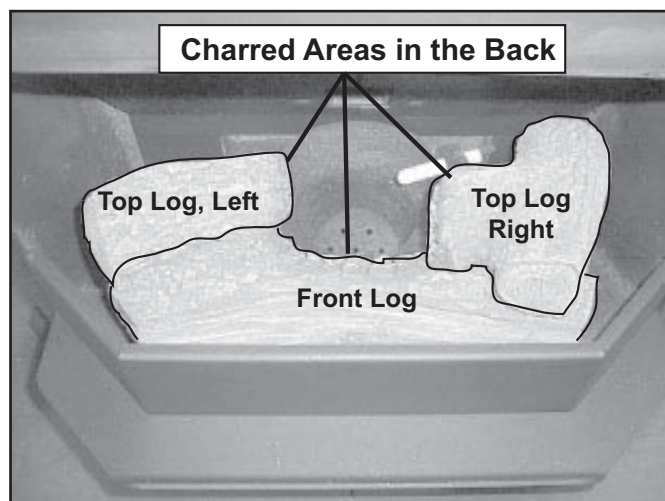

Figure 26.2
2. Set the left and right logs onto the front log, placing the holes in the base of the left and right logs over the locating pins in the front log. See **Figure 26.2**. Ensure that the charred ends are facing the firepot.